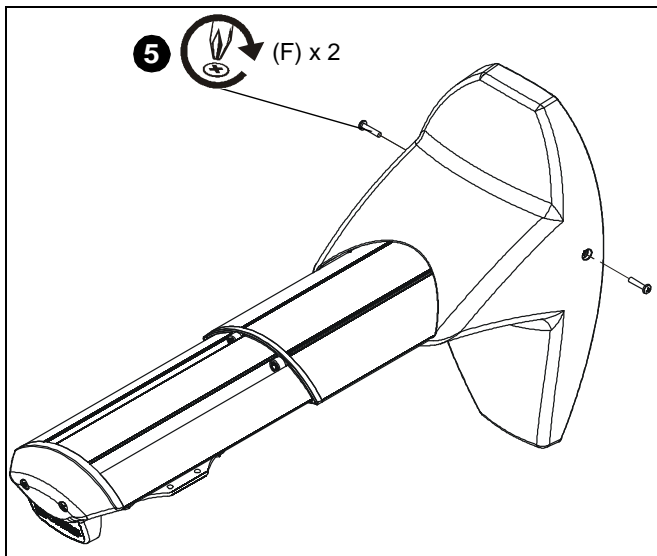

Figure 12
5. Install two #8-32 x 3/4" Phillips pan machine screws (F) through holes on sides of outer cover. (See Figure 12)